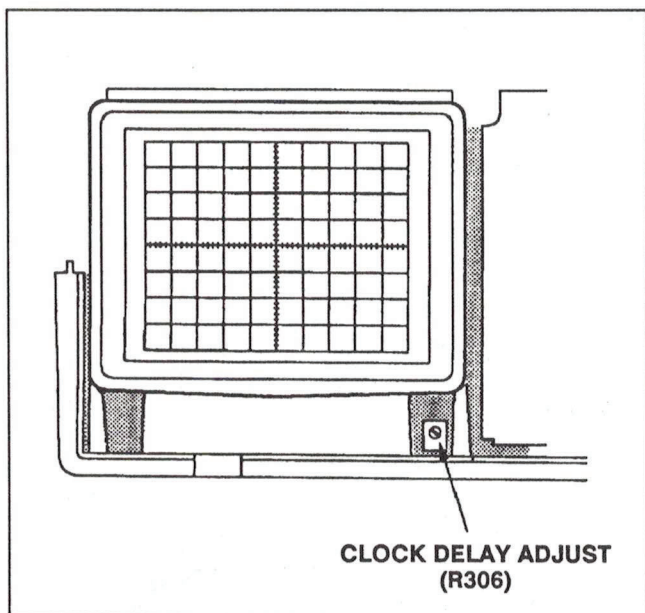

Figure 5-4. Clock Delay adjustment.
- d. ADJUST—Clock Delay (R306, located below the front of the crt, see Figure 5-4) until the trigger position indicator (+) remains within the center two horizontal divisions (an occasional jump outside the center divisions may occur).